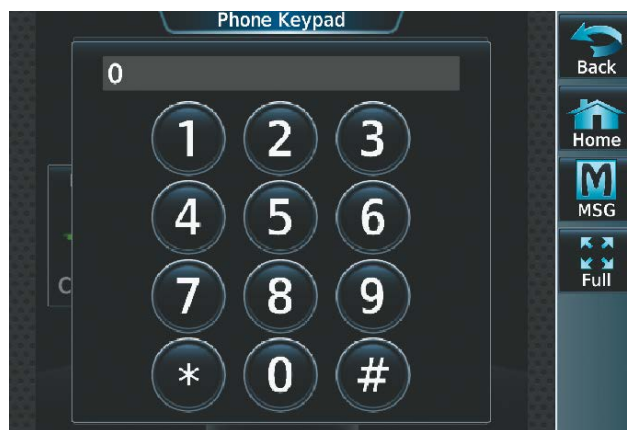

Figure 8-67 Phone Keypad
- 3) Touch the **Open Keypad** Button. The Phone Keypad Screen is displayed (Figure 8-67).